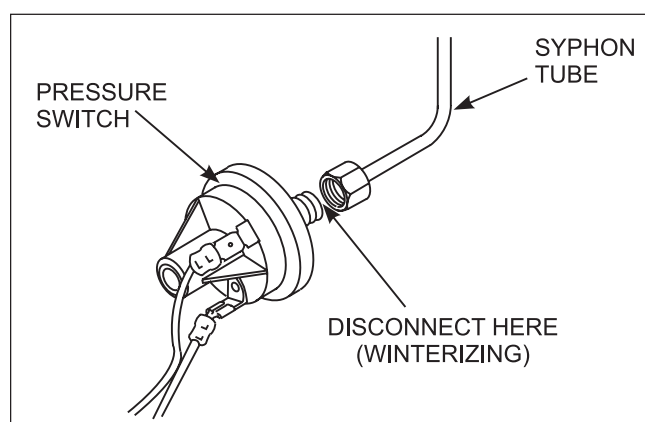

Figure 23. Pressure switch copper tubing
8. Disconnect the pressure switch from the siphon tube (copper tubing) (see Figure 23).
1. Attach the copper tubing to the pressure switch (see Figure 23).